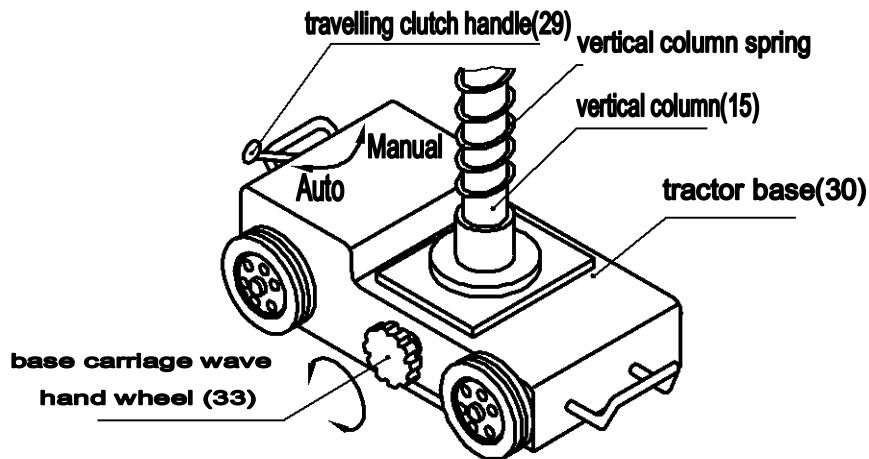

Fig. 2-1-3: Engine base
The trolley is equipped with two sets of heads, which are composed of wire feeding motor (3), wire feeding reducer (34), wire feed bracket assembly (5), welding gun rod (20), etc. Its function is to pull out the welding wire from the welding wire reel (28), lead it into the wire feed bracket assembly (5) through the wire guide frame (4), and send the input welding gun rod (20) to the welding area for welding after being straightened. The machine head is equipped with a turning mechanism of cross carriage (17) and cross carriage connection assembly (18). When the wave hand wheel I in figure 2-1-3-1 is rotated, the carriage drives the machine head to rise and fall with a distance of 100 mm, and the wave hand wheel II is rotated. The carriage drives the machine head to move laterally with a distance of 200 mm between two welding guns. Loosen the m8x25 hexagon head bolts I and II, and the machine head can turn $\pm 45^\circ$; use the special sleeve plate head to loosen Open the 2-M8 hex nut to make the welding gun deflect $\pm 45^\circ$.